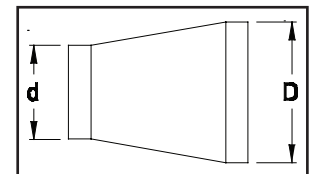

Figure 2
*Reducer or increaser ratio (d/D) small diameter divided by the larger diameter. (See Figure 2) Example 4" to 8" reducer: The reducer ratio is $d/D = \frac{4}{8} = \frac{1}{2}$. To estimate the equivalent foot length for the fitting, use the smaller pipe diameter for the equivalent length figure. Example 4" to 8" reducer; the reducer ratio is $\frac{1}{2}$ and the smaller pipe diameter is 4". So, from the chart, the equivalent feet would be 7 feet.